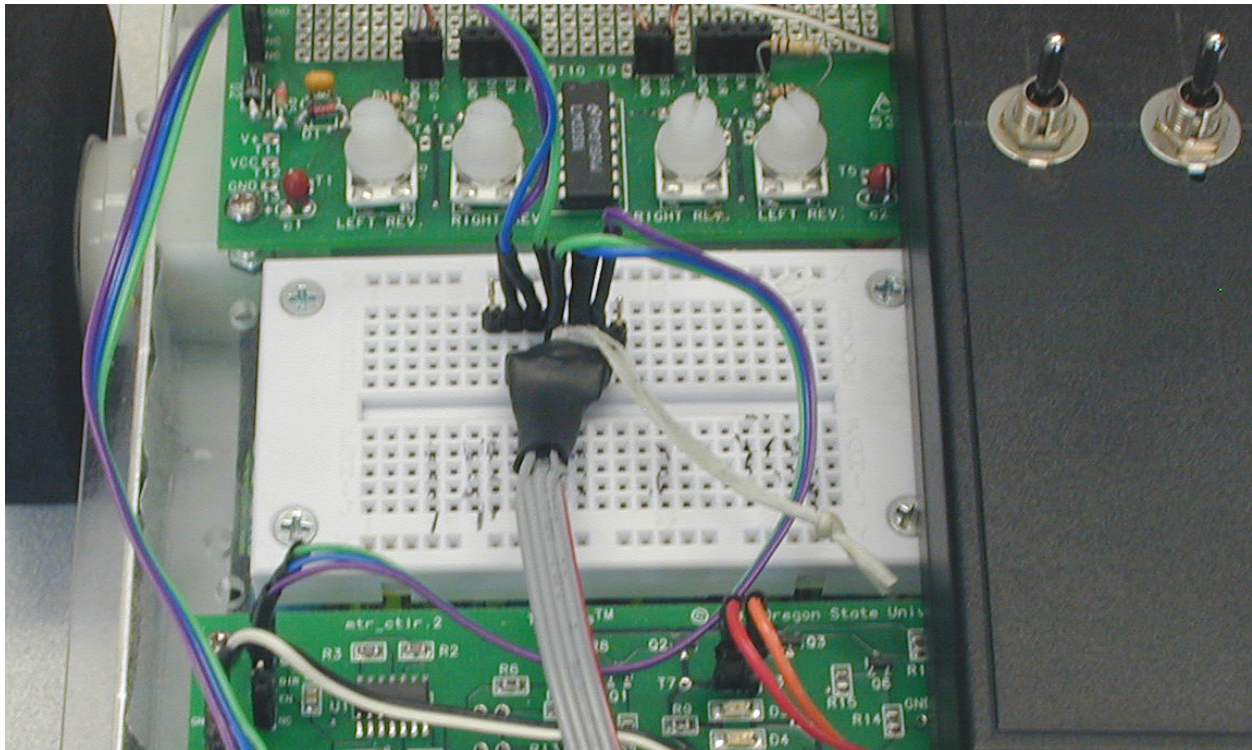

Figure 11. Remote Control Plug
- Place the plug from the wired remote control into the breadboard as shown in Figure 11. Move the charger board switch to ON. The TekBot right wheel should go forward when you press the right switch forward and go backward when you press the switch back. If the TekBot goes the opposite direction, rotate the plug from the motor 180 degrees. The left wheel should work in the same manner.